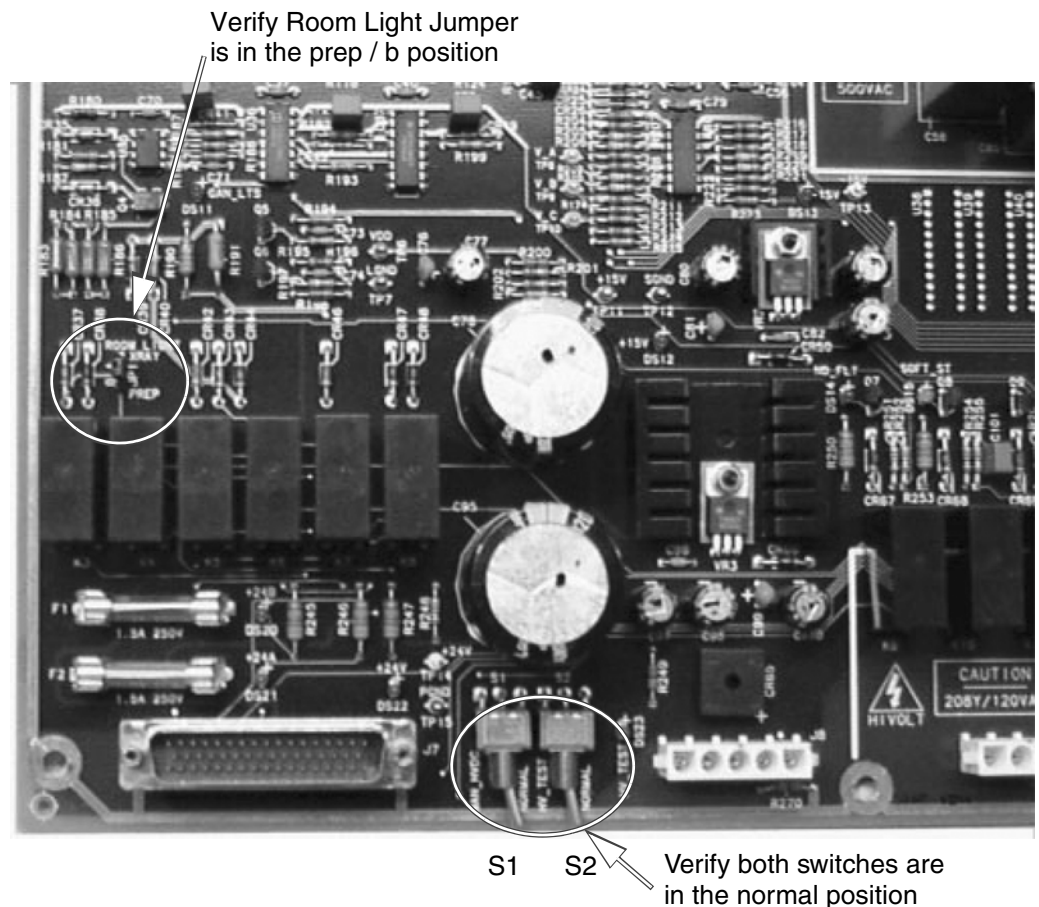

Figure 2-2 CPDU Control Board (A6 Panel)
- 2.) Set the Room Light jumper (JP1) to meet hospital requirements (refer to Figure 2-2).